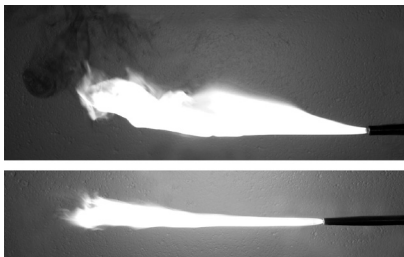

Figure 9
2. Continue opening the fuel valve until all smoke and soot are removed from the flame (see Figure 9). If you cannot clear all the smoke from the flame, increase the pressure on the fuel regulator until the smoke clears. **DO NOT** exceed 15 pounds on the regulator setting if using acetylene. If the smoke still does not clear, use a hose with a larger diameter or shorter length.